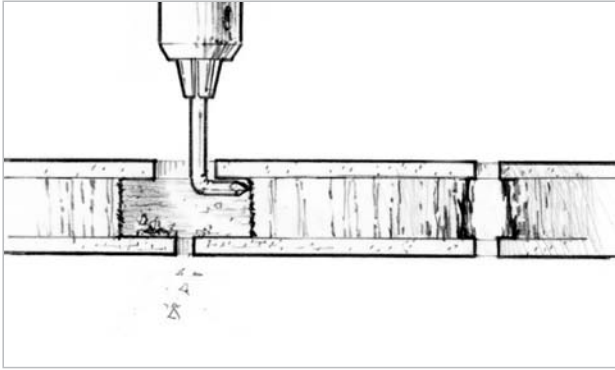

Figure 7-2 Remove about $\frac{1}{2}$ " (12mm) of core material around the hole with a bent nail or an Allen wrench chucked into a drill motor.
2. Clean out the fastener holes and remove a portion of the core around the hole. Re-drill holes with an oversized bit or enlarge holes with a round file to increase bonding area. Drill through the outer skin and core only. Remove about 1/2" (12mm) of core material around the hole with a bent nail or an Allen wrench chucked into a drill motor (*Figure 7-2*). The spinning nail or Allen wrench will pulverize the core material without damaging the skins, provided you are careful.